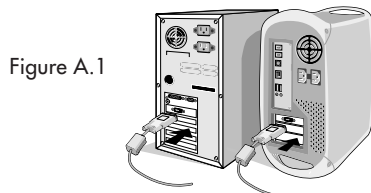

Figure A.1
2. For the PC or MAC with DVI digital output: Connect the DVI signal cable (not included) to the connector of the display card in your system (**Figure A.1**). Tighten all screws.